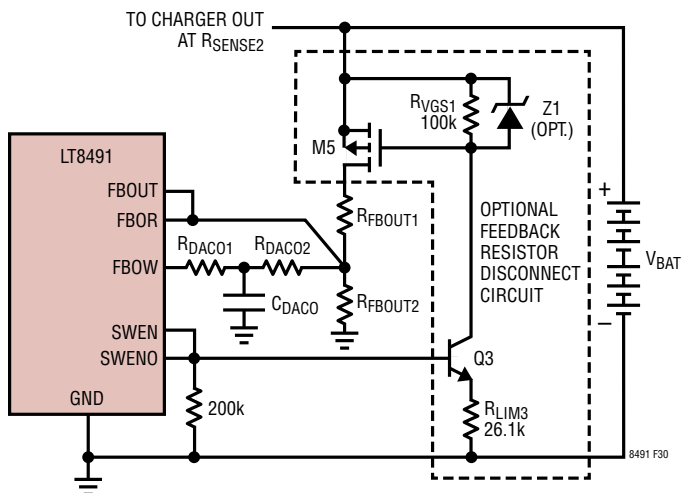
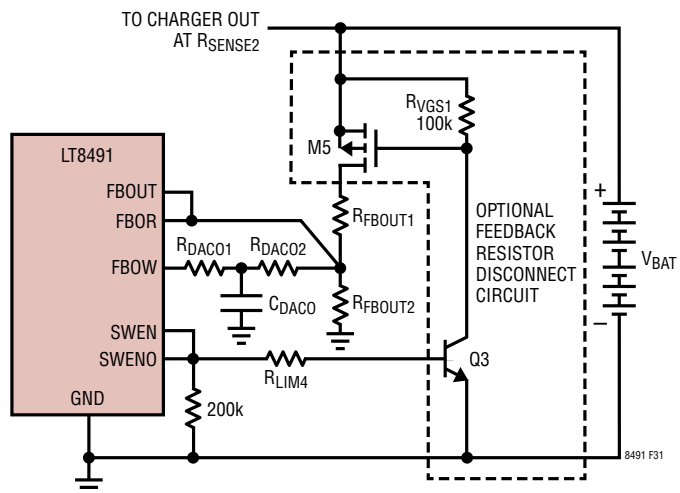
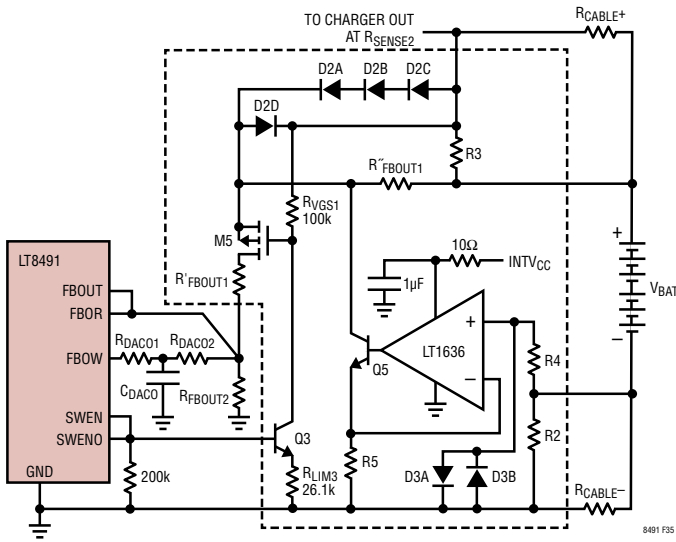

Figure 30. Optional Feedback Resistor Disconnect Circuit #1
Figure 31. Optional Feedback Resistor Disconnect Circuit #2
Figure 35. How to Combine Figure 30 and Figure 34
If desired, the resistors can be automatically disconnected from the battery when charging stops by using one of the circuits shown in Figure 30 and Figure 31. The circuits are controlled by the SWENO signal from the LT8491 and connect the resistor feedback network when charging is taking place. When charging stops, the network is disconnected and current draw from the battery becomes negligible.
**Selecting Z1:** Due to the transients that may occur during hot-plugging of a battery, this Zener diode is recommended to protect device M5 from excessive gate to source voltage. If using device Z1, the reverse breakdown voltage should be selected such that  $V_{GS(ON)} < V_{Z1(BREAKDOWN)} < V_{GS(MAX)}$  where  $V_{GS(MAX)}$  is the maximum rated gate to source voltage specified by the device manufacturer. The BZT52C13 has a reverse breakdown voltage of 13V making it suitable for the  $R_{LIM3}$  value shown in Figure 30.
**Alternate Circuit:** For lower battery voltages (< 20V), Q3 in Figure 30 may saturate. To avoid this, consider connecting the emitter of Q3 directly to ground by removing  $R_{LIM3}$  and adding resistor  $R_{LIM4}$  to the base of Q3 as shown in Figure 31. Employing the optional feedback resistor disconnect at arbitrarily low battery voltages will be limited by the required gate to source voltage of M5.
D2A - D2C protect the charger if the positive charging cable ( $R_{CABLE^+}$ ) becomes disconnected while the others remain intact. Without the diodes, the output of the charger may overvoltage and become damaged. BAV99 diodes are a good choice and are available in a dual-diode package to minimize board space. Note that the diodes limit the maximum  $R_{CABLE^+}$  error to 0.3 to 0.5V. If a greater voltage drop is typical in the positive cable, then place more diodes in series. In Figure 35, D2D protects the M5 device by limiting the gate to source voltage when making the remote sense connection.
Figure 35 shows how to combine the remote sensing circuit (Figure 34) and the feedback resistor disconnect (Figure 30) for applications that require the most accurate battery voltage sensing and negligible battery drain when charging completes. The  $R_{VGS1}$  resistor can no longer connect to the source of M5 (as in Figure 30) since the  $R_{VGS1}$  current would also flow through  $R''_{FBOUT1}$  causing an error in the measured battery voltage. Figure 34 shows that  $R_{VGS1}$  has been reconnected to the (+) battery sensing terminal.